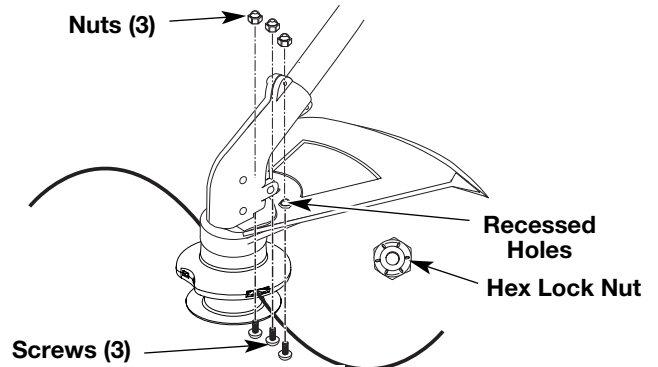

Fig. 3
2. Place one of the three (3) supplied hex lock nuts into one of the three recessed holes on the top of the cutting attachment shield (Fig. 3).
3. Install a screw into the hole from the bottom of the cutting attachment shield. Screw it into the nut installed in step 2 until it is started (Fig. 3). Do not tighten.